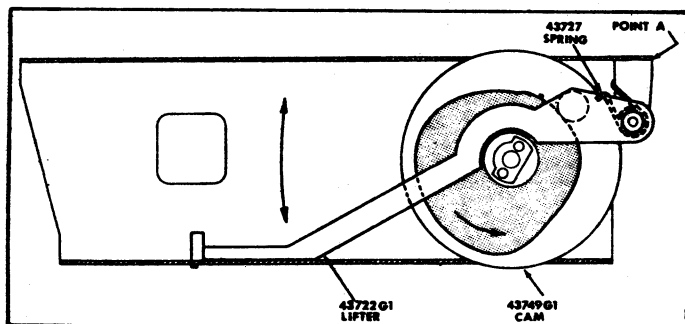

Figure 6. SLIDE LIFTER-CAM #3
a. Depress "SELECT" button to elevate slide lifter (43722-G2) to the top of its cycle (highest point). The top of the lifter finger should be between 0.093 to 0.113" (2.36 to 2.87mm) above the slide tray rests. To obtain this dimension, push lightly on the mechanism at point "A" (figure 6). Check this dimension with a drill rod (twist drill) of this diameter range on top of mechanism assembly next to lifter pad.
- d. Slide is ejected by lifter arm and cam #3 (Fig. 6). The slide clamps do not start to open until the slide is 50% up and well into the tray slots.